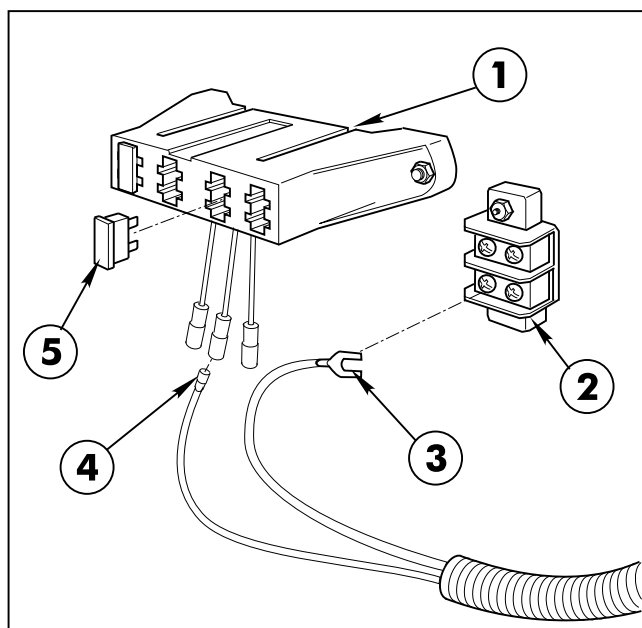

FIG. 3
4. Measure carefully and determine the length of white wire necessary to reach the Ground Terminal Block. Cut off the excess wire and crimp the spade terminal onto the stripped end. Connect the spade terminal to the Ground Terminal Block as shown in FIG. 3.
5. Measure carefully to determine the length of red wire necessary to reach the Fuse Block. Cut off excess wire and crimp the push-on terminal onto the stripped end. Connect the push-on terminal to the male terminal on the red wire from the Fuse Block, as shown in FIG. 3.
6. Insert the 20-amp fuse into the Fuse Block receptacle, as shown in FIG. 3.